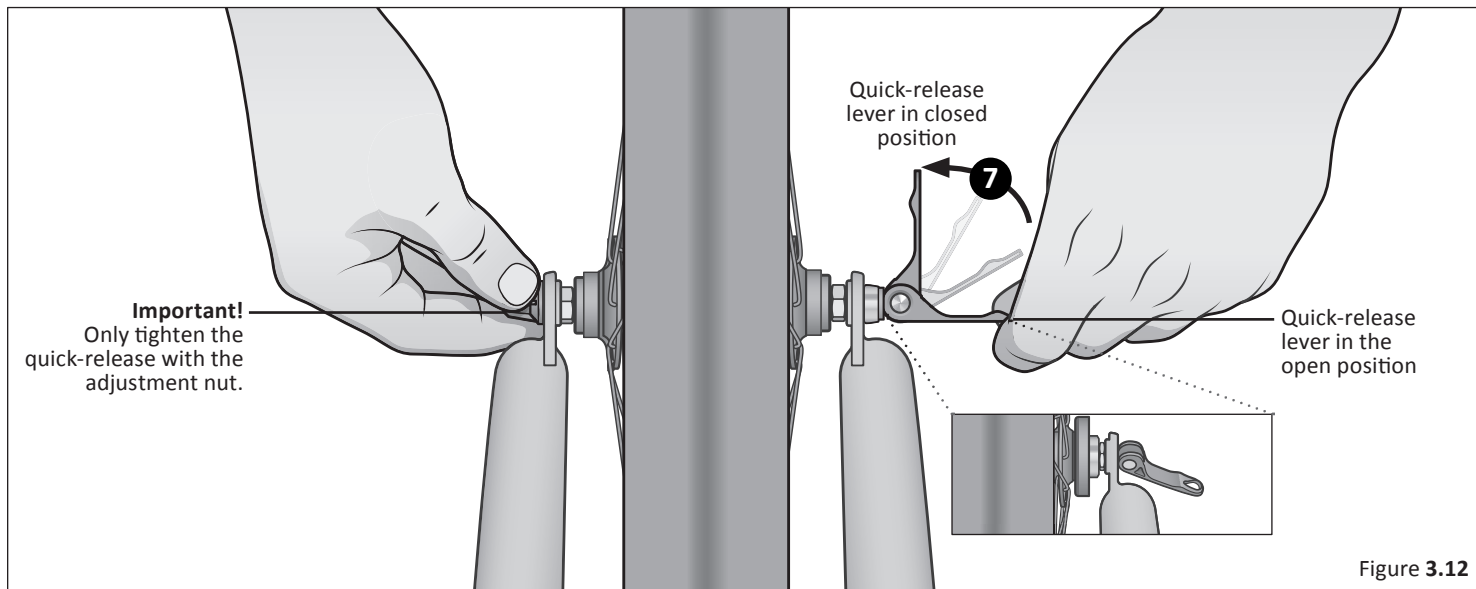

Figure 3.12
- 7 Move the quick-release lever into the **open** position. With one hand on the quick-release lever and one hand on the adjustment nut, start to hand tighten the adjustment nut until you start to feel some resistance against the fork. Figure 3.12